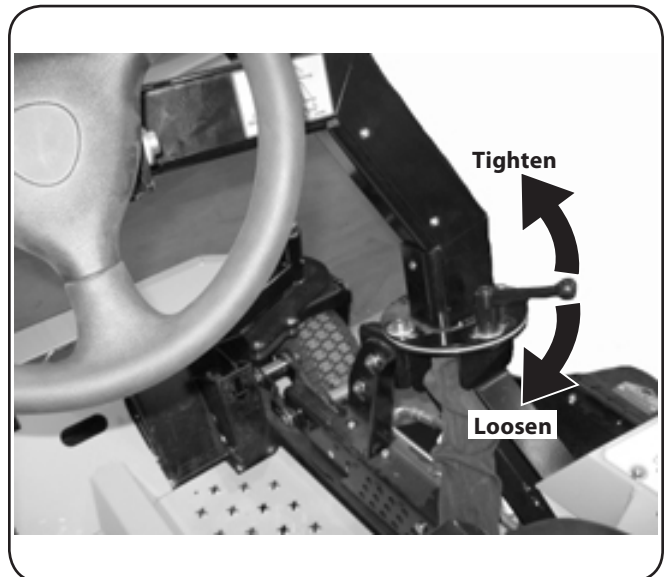

Figure 3-9
1. Pull the adjustment lock lever back toward the operator's position to loosen the column. See Fig. 3-9.